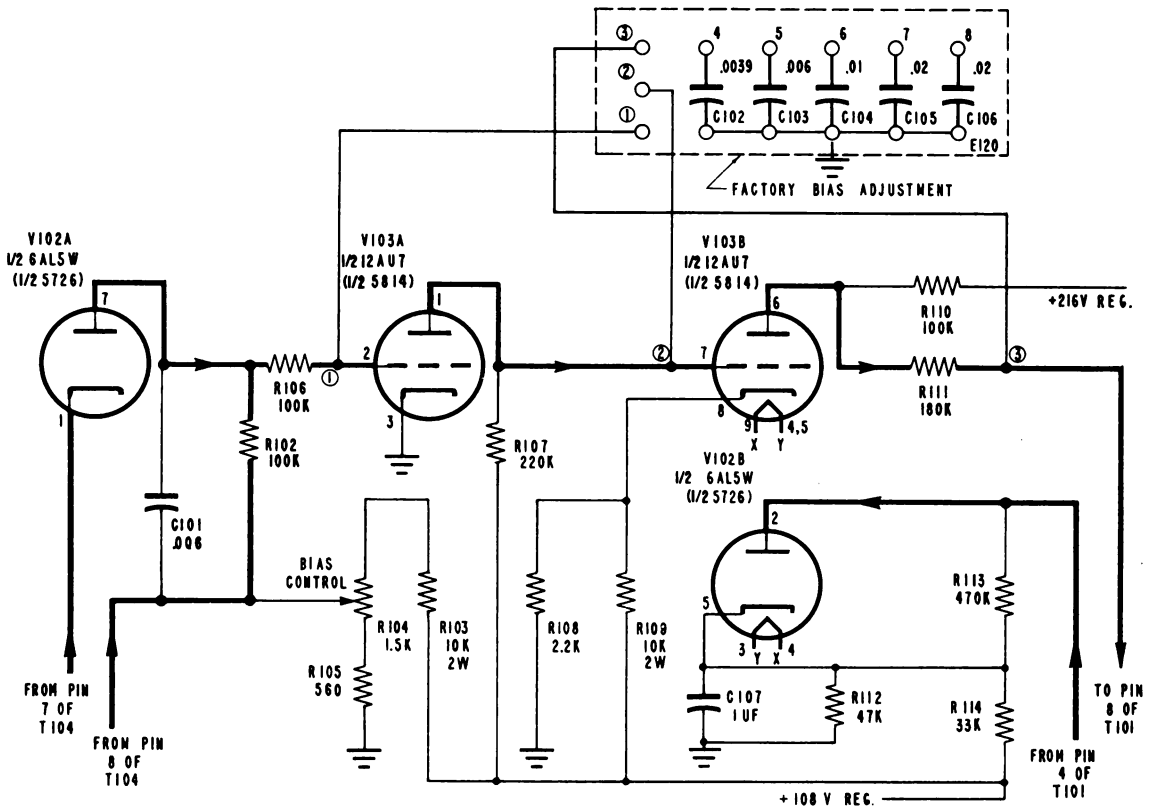

Figure 2-5. Schematic Diagram of DC Amplifier Circuit
c. DC AMPLIFIER. - In order to create a DC MARK pulse, the 15 kc voltage output of the loop oscillator is rectified by the 6AL5W type tube V102A and is filtered by a 0.006 mf capacitor C101 as shown in figure 2-5. The negative pulse so obtained is inserted into the grid of the 12AU7 type tube V103A. Under SPACE conditions in the loop circuit no voltage drop will be produced across resistors R125 and R126 therefore the 15 kc oscillator does not oscillate. No negative potential is applied to the grid of V103A by the rectifier tube V102A. This leaves a positive potential applied to the grid of tube V103A which comes from the arm of the potentiometer R104 through R102 and R106. Therefore, during keying of MARK and SPACE pulses the grid of tube V103A will go negative and positive, respectively, with respect to ground. The wave-form of the resulting DC pulses is shaped by 100,000 ohm resistors R102 and R106, and the capacity connected to the grid of tube V103A. Facilities are available to strap in various values of capacity into points marked 1, 2, and 3 on figure 2-5. During manufacture of the equipment this strapping is properly done to adjust close to zero the bias for the MARK and SPACE frequencies produced by the equipment. If a chassis is changed to any other channel frequency it may be necessary to strap other values of capacity at points 1, 2, and 3. The effect of adding capacity to point 1 is to increase the relative length of a MARK signal. Adding capacity to point 2 increases the length of a SPACE pulse, although to a lesser extent. Adding capacity to point 3 filters the sharp wave front of the transition and increases the length of a MARK signal again, but to a lesser extent. Minimum values of capacity are used to maintain a high keying speed. The arm of control R104 is set at the factory at 10 volts positive with respect to ground. This adjustment should
not be disturbed unless absolutely necessary and then never less than 8 volts or greater than 12 volts. Too much change in this control will effect the bias and is very apt to stop the transmitter from keying the frequency shift oscillator. The adjustment of this control R104 is factory set to produce a voltage on the grid of tube V103A that will allow negative pulses from the rectified 15 kc oscillator output to lower the plate current of tube V103A and increase the current during SPACE conditions. The range is quite limited for successful operation. When the control R104 is correctly set DC pulses will be produced in the plate circuit of tube V103A across the 220,000 ohm plate resistor R107 supplied from a regulated plate supply of +108 volts. Under proper operation this plate voltage varies between +5 volts for a SPACE to +20 volts for a MARK signal; the 20 volts being limited by the grid current of V103B. These DC pulses are again shaped by R107 and the capacity connected to the grid of V103B. The cathode of V103B is connected to a potential of +20 volts through the voltage divider formed by R108 and R109. After further amplification the voltages on the plate of V103B vary between +30 volts for a MARK signal and +160 volts for a SPACE signal. After a rounding off by a 180,000 ohm filter resistor R111 and the capacity connected to point 3 of figure 2-5, the pulses are applied to a 6AL5 clamping diode V102B. With the cathode of V102B con-